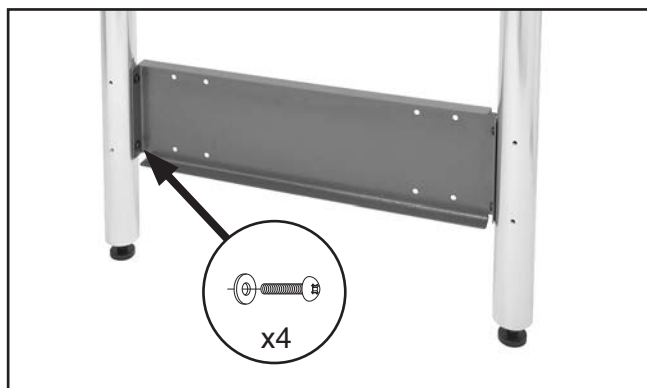

Figure 34. Installing shelf end plate on extension table legs.
9. Fasten the shelf end plate to the legs with (4) M6-1 x 12 Phillips head screws and 6mm flat washers, as shown in **Figure 34**.